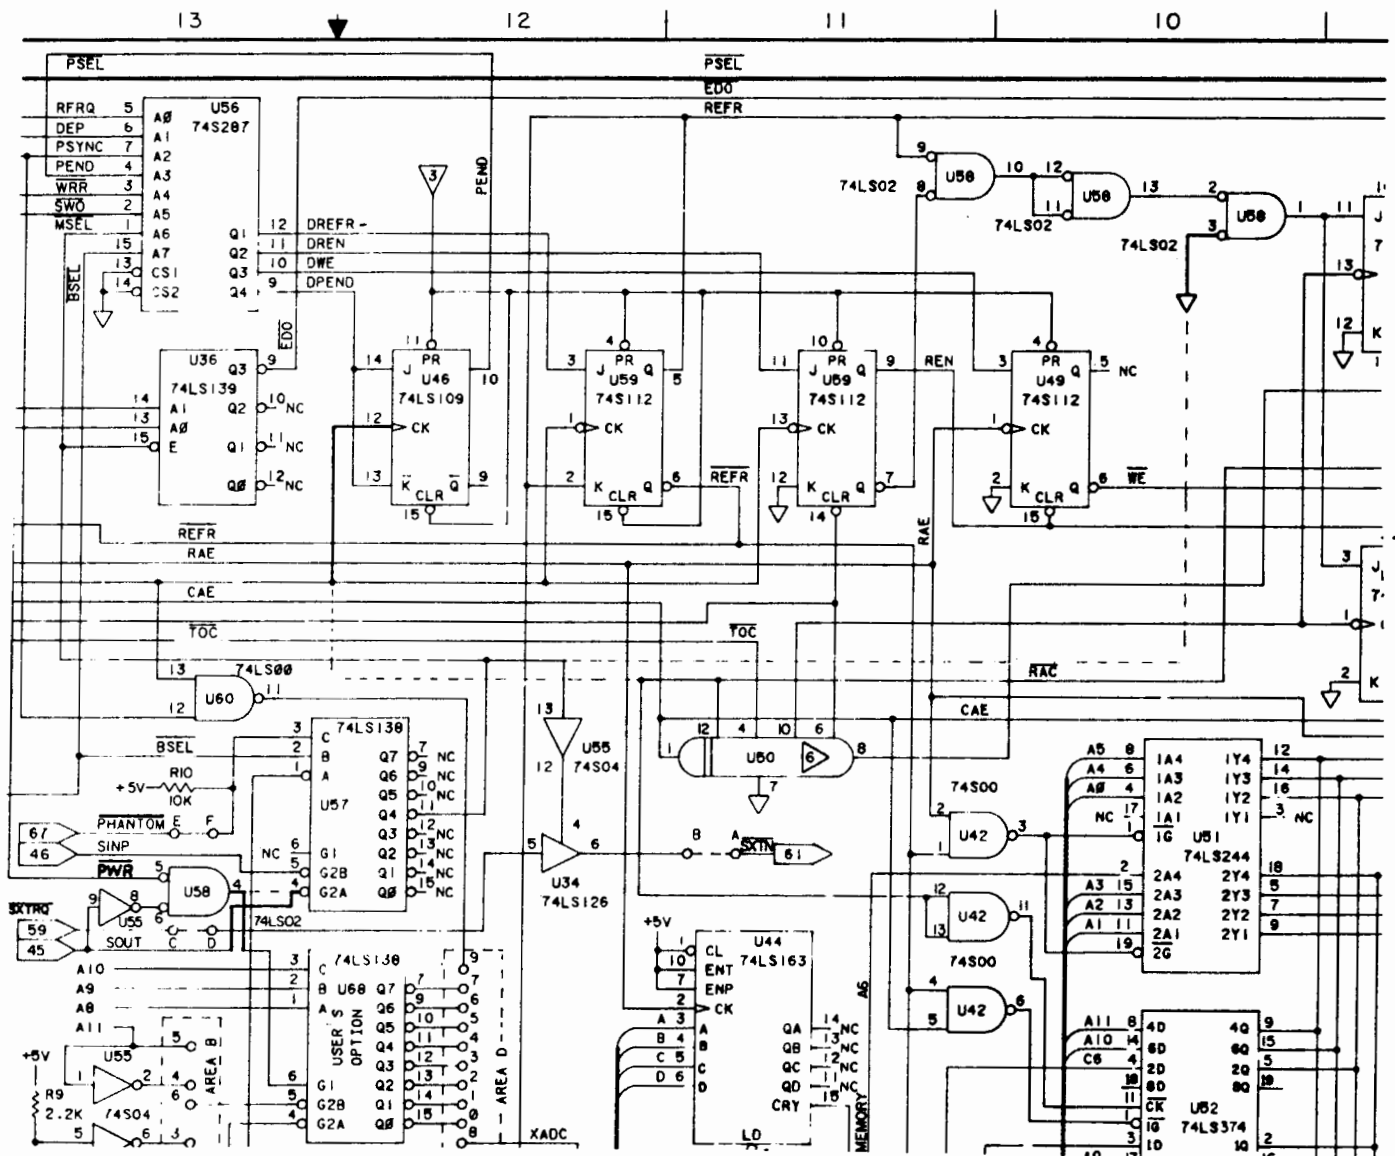

Figure 1. Portion of nKRA Schematic
Three wiring changes described below are shown in Figure 1, a portion of the schematic included in the 32KRA-1 and 48KRA-1 User's Manuals:
- 2) The timing of the the signal PEND at U46-pin 10 is changed. U46 was clocked 150 nsec after the falling edge of PHASE 2, with a signal from the delay line. The change clocks U46-pin 12 by the rising edge of PHASE 2, shown also in Figure 1. This change results in more tolerance to the variations of clock timing in different S-100 computers.
Boards without the changes sometimes have very sharp noise pulses on the four RAS signals during Coincidence cycles. The changes, shown in Figure 1, ensure that the trailing edge of the four RAS signals go high before the four PAGE signals change, by gating U30 from a new signal, ME, instead of ME1 and ME2. The new ME signal occurs two gate delays earlier.